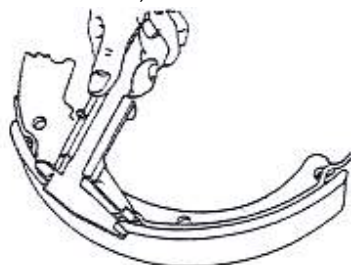

Fig. 2-25
- (1) Check the inner surface of brake wheel cylinder block and the outer surface of piston for rust. Measure the clearance between the piston and cylinder block. Standard value: 0.03mm - 0.10mm; limit value: 0.15mm.
- (2) Visually check the piston cup for damage and deformation; if any, replace it.
- (3) Measure the free length of brake wheel cylinder spring. If it exceeds the standard value, replace it.
- (4) Measure the thickness of friction lining. If it exceeds the wear limit, replace it. See Fig. 2-25. Standard value: 8.0mm; limit value: 2.0mm.
- (1) Coat the brake wheel cylinder cup and piston with brake fluid. Fit the spring, piston cup,
- (2) Fit the brake wheel cylinder on the brake back plate.
- (3) Fit the brake back plate on the drive axle.
- (4) Apply heat-resistant grease on the points as shown in Fig. 2-25. Do not apply grease on the friction lining.